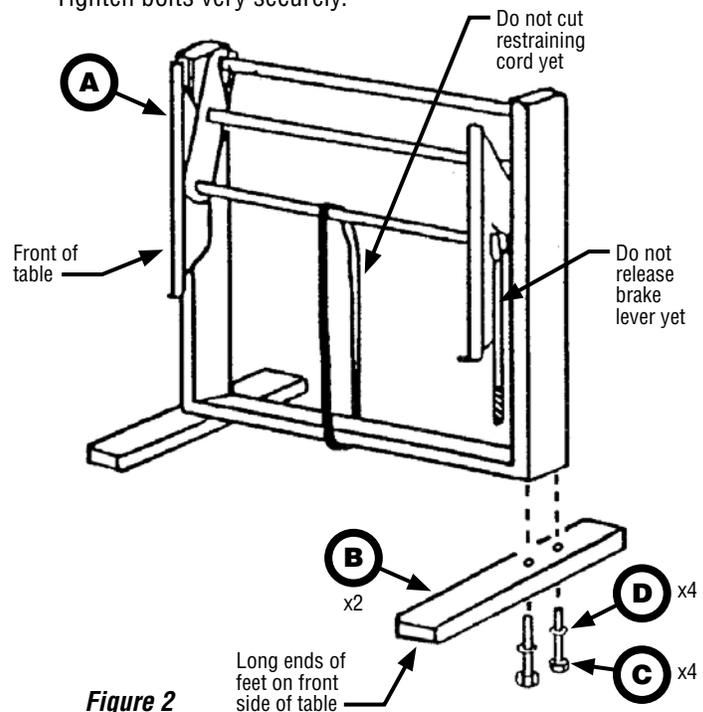

Figure 2
2 Attach feet (B) using foot bolts (C) and washers (D) provided. Be sure that the long ends of feet extend toward the front of the table, as shown in **Figure 2**. Tighten bolts very securely.